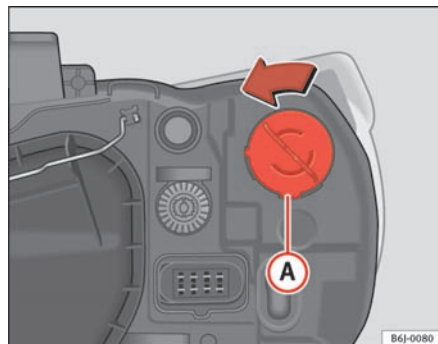

Fig. 137 Single indicator lamp
- Rotate the lamp holder ⇒ fig. 137 **A** to the left and pull.